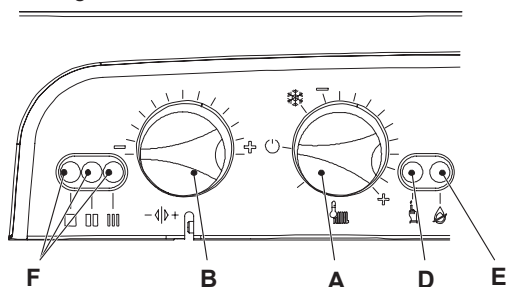

Figure 8.5
- 4 Turn the boiler OFF positioning the function selector A as indicated in Figure 8.5.